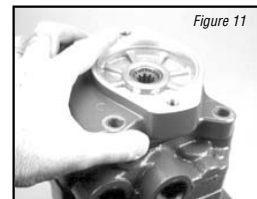

Figure 11
**10** With the cap screws removed, remove the charge pump adaptor assembly from the backplate (see Figure 11).